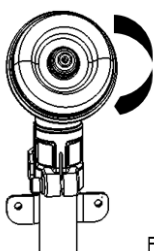

Fig.2
1. Remove the nut (clockwise), dust cover and gearbox support plate; (Fig. 2 and 3).